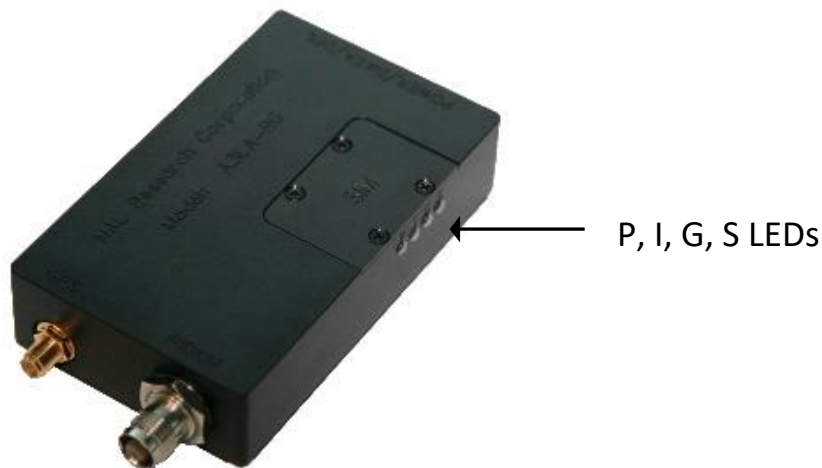

**Figure 6: Location of the SIM Reader**
The A3LA-RG modem uses a single TNC female 50-ohm connector for both transmit and receive (see **Figure 6**). Cable loss between the modem and the antenna is critical and must be kept less than 3 dB at the operating frequency of 1616.0 to 1626.5 MHz. The minimum link margin of 12 dB must also be maintained. General Radio Frequency (RF) parameters are listed in Table 2 below.
The A3LA-RG modem uses an SMA female connector for the GPS antenna (see **Figure 6**). Any active antenna requiring a bias voltage of approximately 3.3 VDC with <50 mA is appropriate. NAL Research offers a magnetic mount GPS antenna as well as dual Iridium/GPS antenna for use with the A3LA-RG. For low-cost and applications where small form-factor and light-weight are required, NAL Research highly recommends model SAF7352-IG (see **Figure 5**).
The A3LA-RG modem contains an integrated SIM reader. The modem uses and requires an Iridium SIM chip for operation. The SIM chip is inserted into the opening located at the top of the modem, as shown in **Figure 6**. A plastic locking mechanism holds the SIM in place. Place the SIM chip (facing down) into the SIM reader's bracket. Ensure that the cut-off on the SIM chip aligns with the SIM reader.